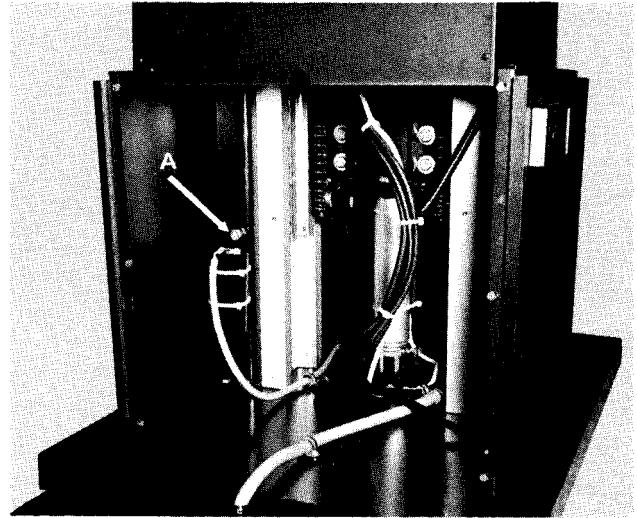

Fig. 35
- 3) The capacitor is located on the left hand support channel, Fig. 35.
- 5) Remove the bolt (Item A, Fig. 35) with 9/16" socket wrench to remove capacitor holder.